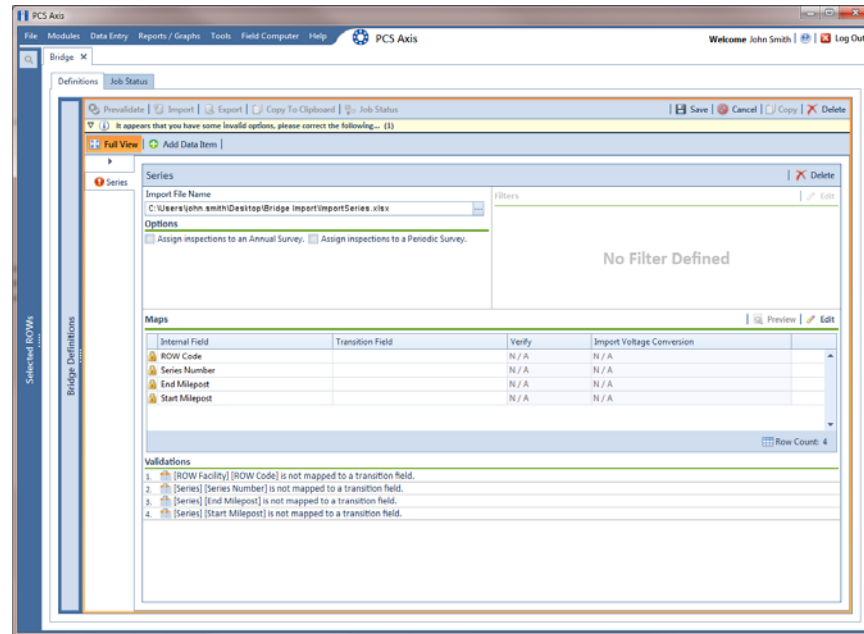

Figure 10-51. Definition
- 8 Identify the location of the import transition file using the following steps (Figure 10-51, page 477):